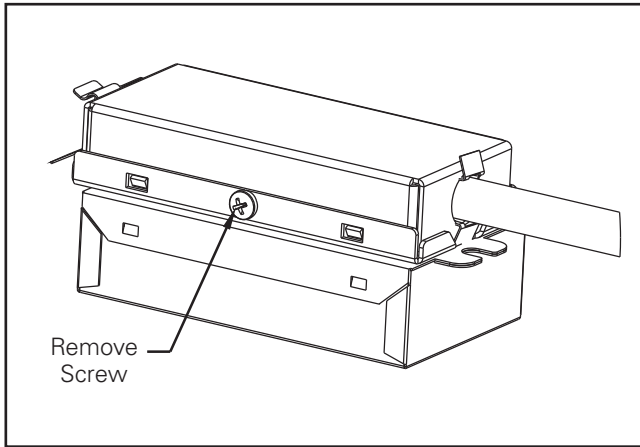

Figure 10
2. Remove screw from raceway (see figure 10).